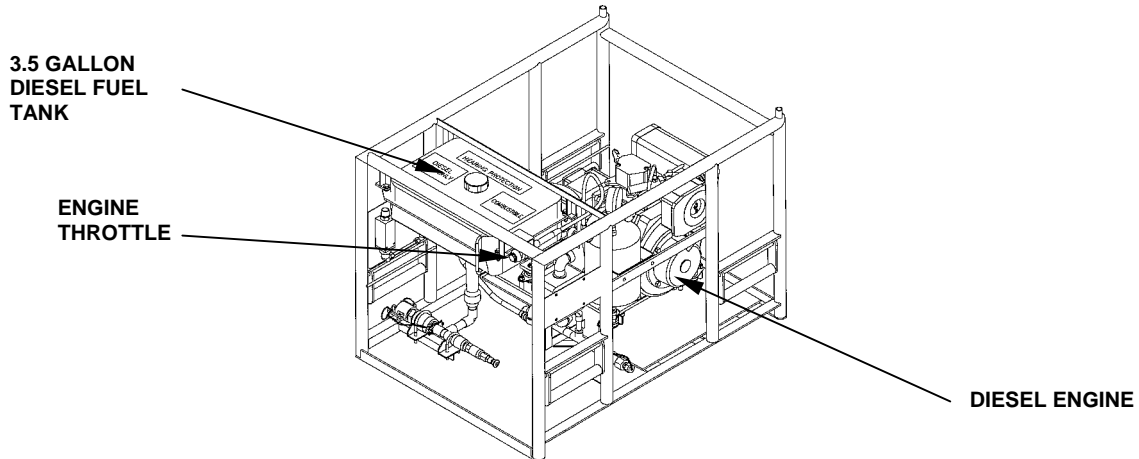

Figure 24. High-Pressure Pump Module.
2. Loosen locknut on throttle handle. See Figure 24.
5. Press red button on throttle cable. Pull out completely. See Figure 24 and Figure 29.